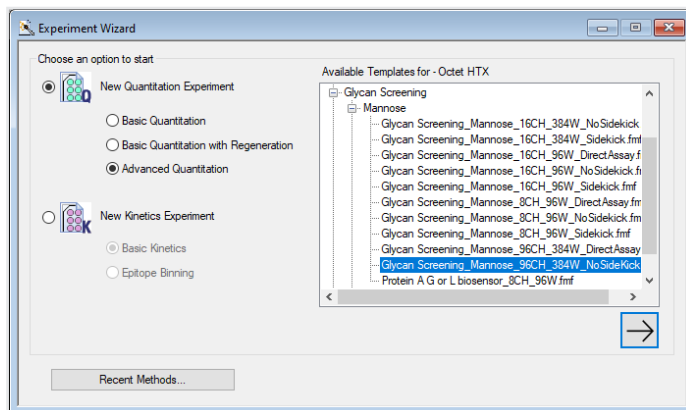

Figure 16: Experimental Wizard window from the Octet® BLI Discovery Software v. 12.2
8. Launch Octet® BLI Discovery Software and choose the Advanced Quantitation option in the Experiment Wizard (Figures 16 and 17). Use the advanced quantitation template “Glycan Screening_Mannose_96CH_384W_NoSidekick.fmf” for this format.